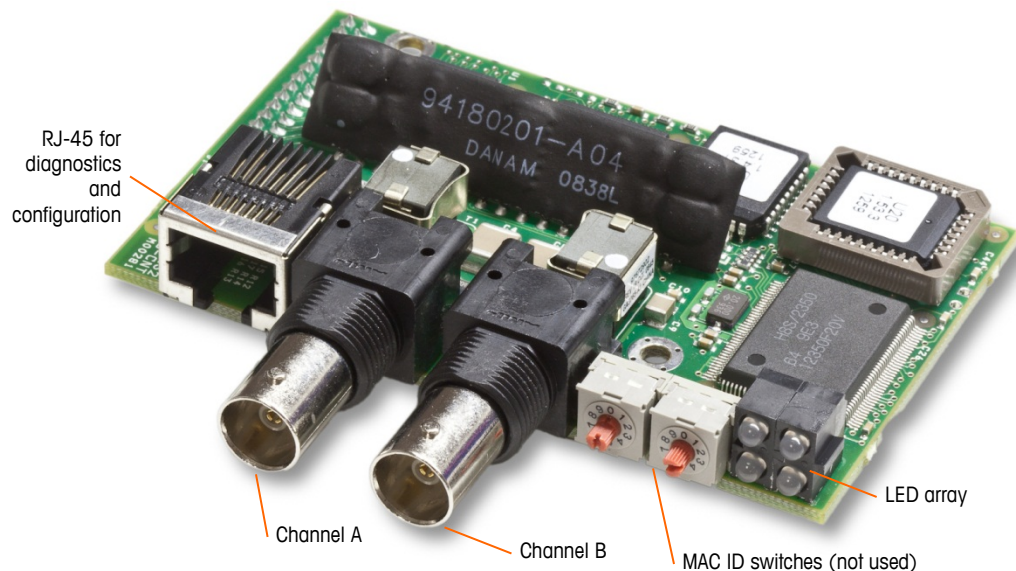

Figure 4-1: ControlNet PLC Module and its Components
Figure 4-1 shows the ControlNet module and its components.
- Do **not** plug an Ethernet cable into the RJ-45 connector shown at left in Figure 4-1. This connection is not used.